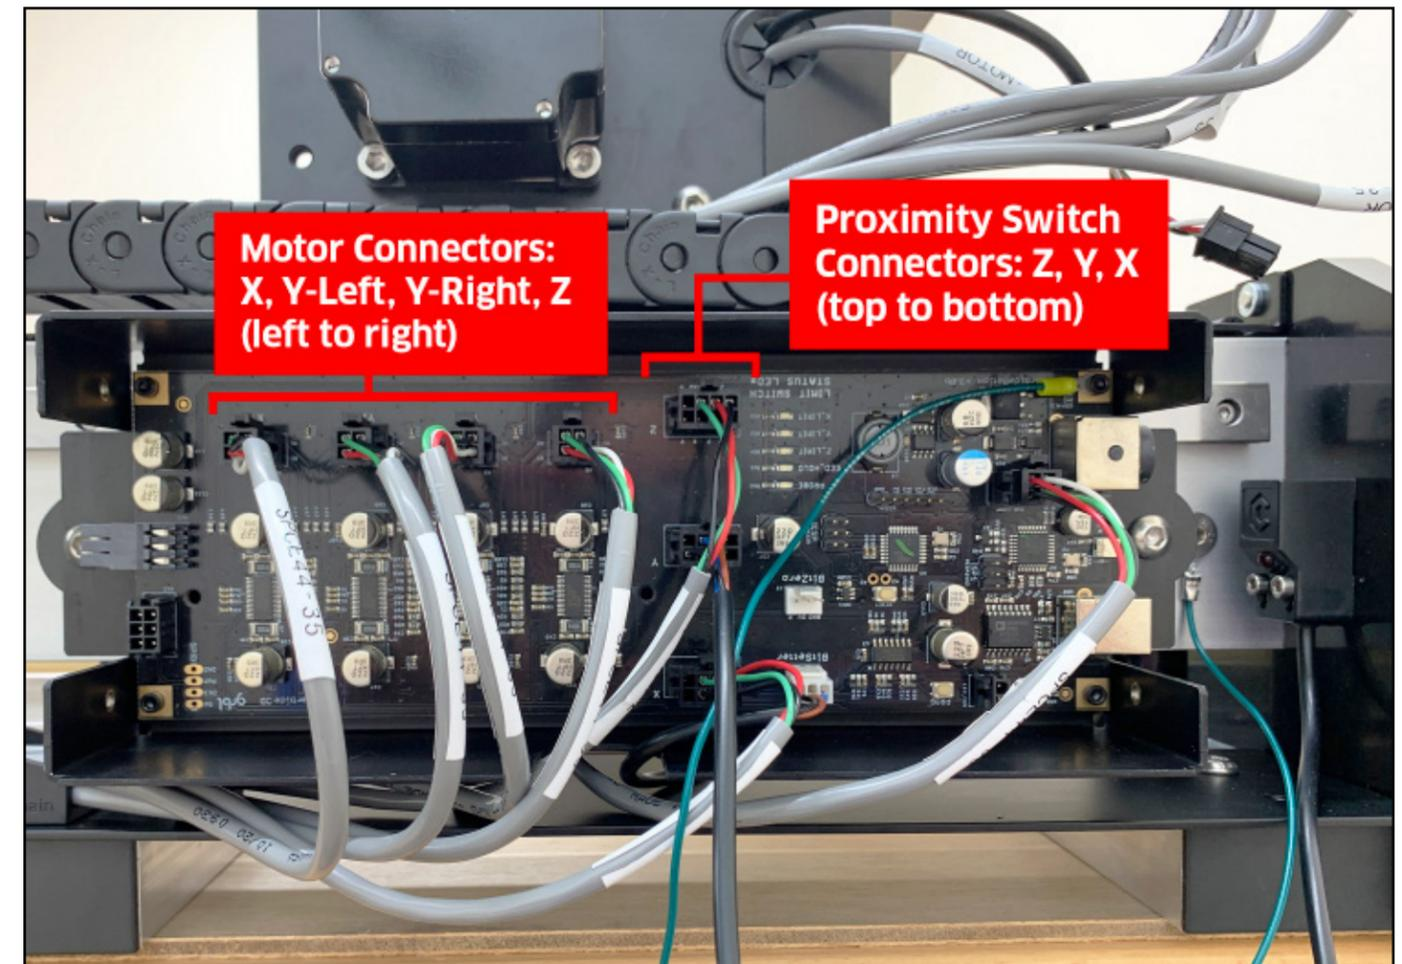

Figure 9-3
4. Plug the three 8-pin male proximity switch cables into the 8-pin female connectors down the center of the controller labeled "Z", "Y", "X". **See Fig. 9-3.**
5. Plug the four 4-pin male stepper motor cables into the 4-pin female connectors at the top-left labeled "X", "Y2", "Y1", "Z". **See Fig. 9-3.**
6. Use the four (4) thumbscrews to attach the controller cover.